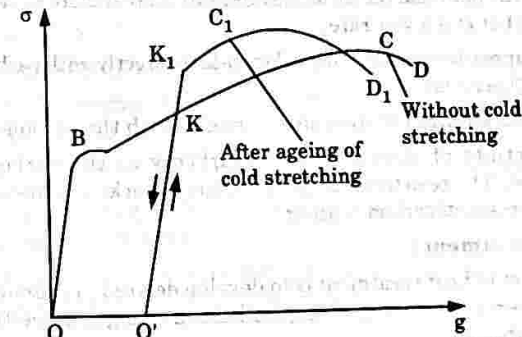

Fig. 2.13.1. The curve of cold stretching of steel bar.
4. As shown in Fig. 2.13.1, the stress-strain curve of steel is $OBKCD$; if the steel is stretched to point K and release the tension, the steel will recover to point O' ; and if it is stretched again, the stress-strain curve will be $O'KCD$, and the new yield point (K) is higher than the original yield point (B), but the elongation decreases.